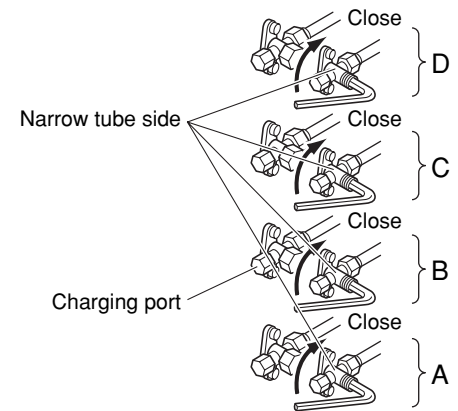

Fig. 22
- (1) Fully close the spindles at the valves on the narrow tube side of tubes A, B, C and D. (Refer to Fig. 22.)